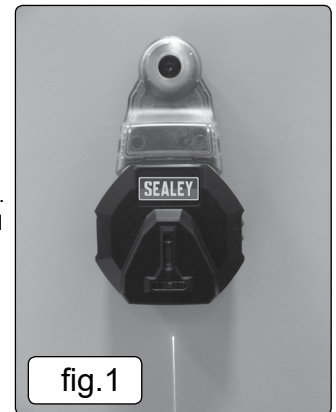

fig.1
- 4.1.1. Mark position of hole that you want to drill. If drilling more than one hole in succession the laser guides can be used to line up with your markings (fig.1).